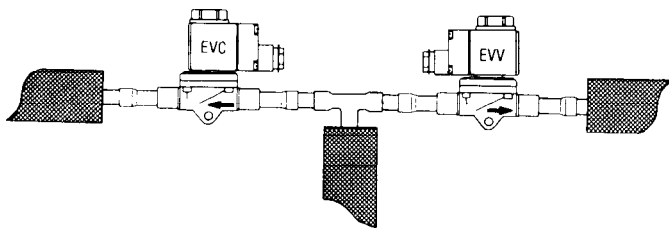

Figure 8
1) Refrigeration Solenoid Valves – These valves are located behind the front panel. These valves are used to control the flow of refrigerant to the cylinders or mix storage tanks. These valves are designated with EVC for each cylinder and EVV for the mix storage tank. (Refer to Figure 8)